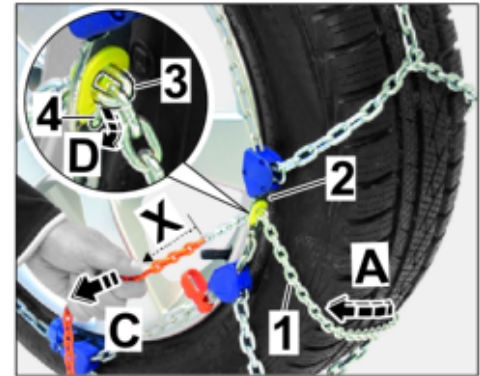

Figure 11
2.2.5 Pull the tensioning chain tightly through the locking plate (⇒ *Figure 11 -C-*).
Check that the colored part of the tensioning chain (⇒ *Figure 11 -X-*) is pulled completely through the locking plate.
Engage chain link of the tensioning chain in the slot and lock on the locking plate (⇒ *Figure 11 -D-*).